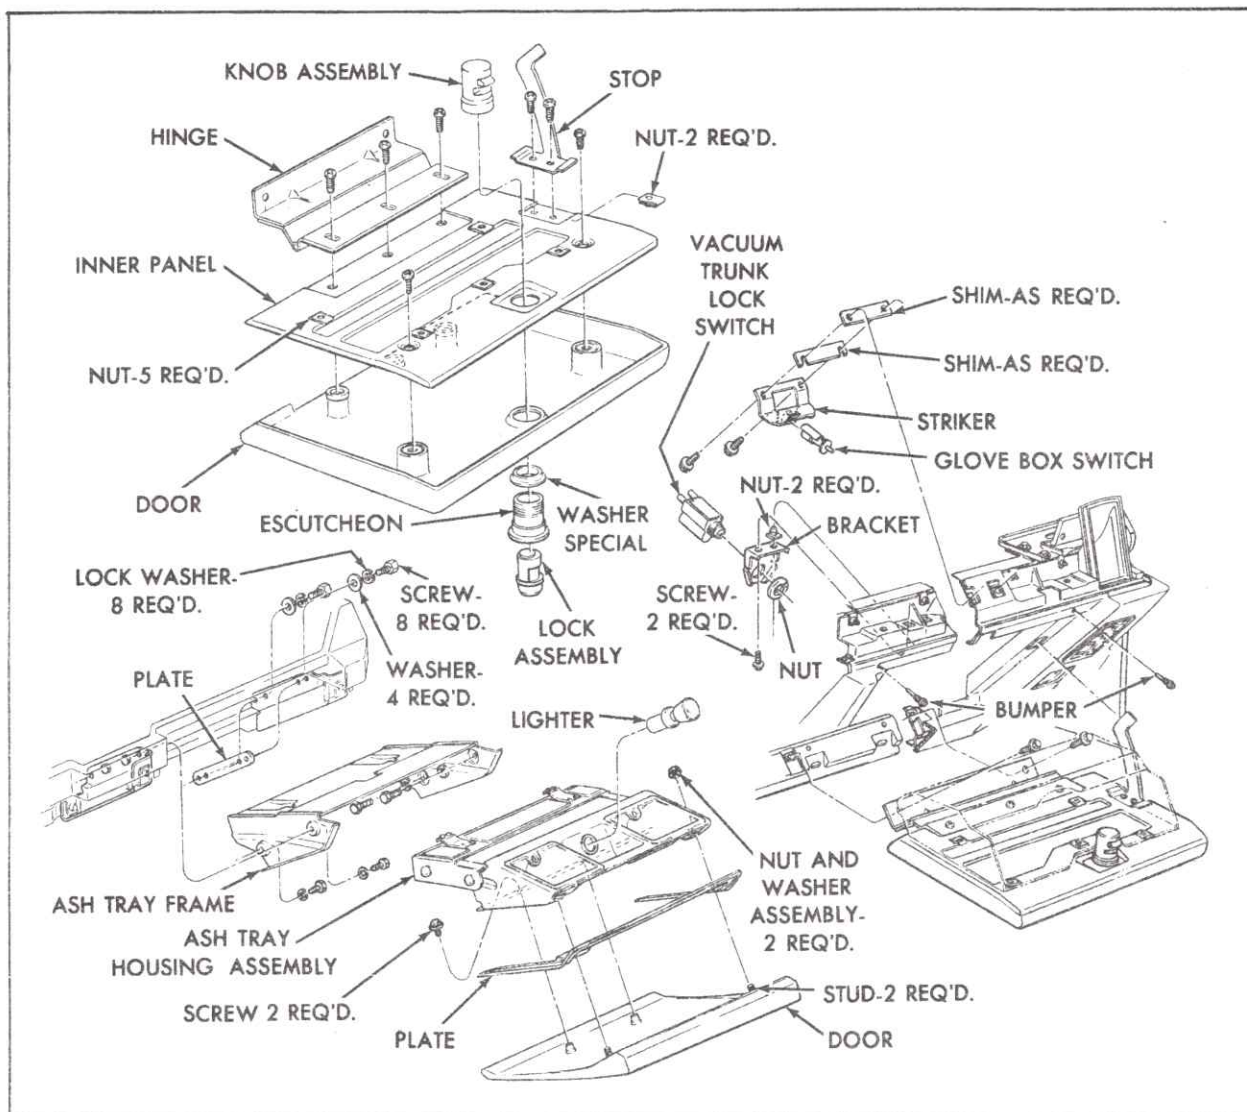

Fig. 12-44 Instrument Panel - Perspective 4
3. Remove four screws and lockwashers that secure ash tray frame to retaining plate, Fig. 12-44.
7. Loosely install spanner nuts that hold control shafts to panel to hold radio in position, Fig. 12-44.
8. Align radio and tighten screw securing right rear side bracket to frame, Fig. 12-44.